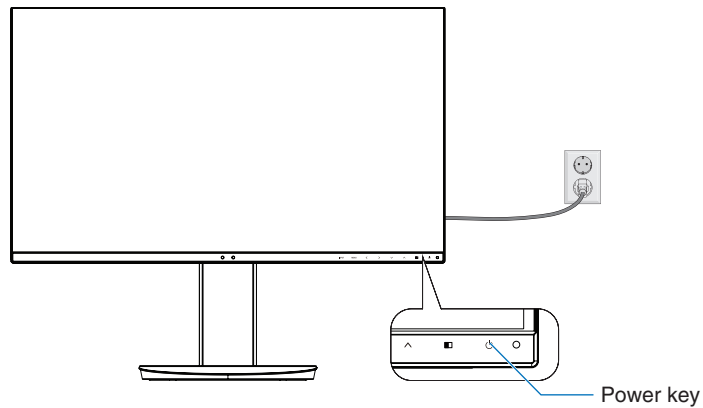

Figure E.1
8. Turn on the monitor by touching the power key on the front bezel and then turn on the computer (**Figure E.1**).